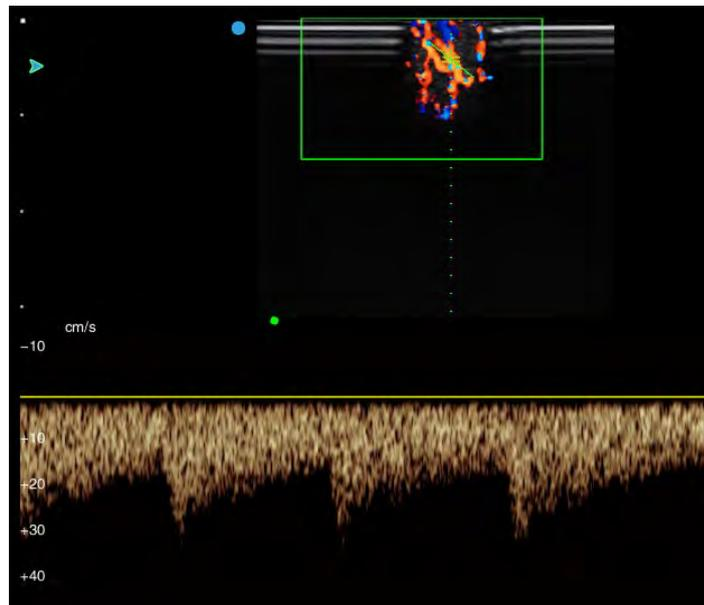

Fig.6-22 Triplex mode
**Touchscreen:** In Live state, when B, PW and CFM modes are turned on, tap **Triplex** and activate B/C/PW Triplex (as shown in Fig. 6-22), and **Active B/C/PW** will be displayed in the control parameter area. Press continually on the **T-Ball** in the control panel to switch back and forth between **Active PW**, **Active B/C** and **Active B/C/PW**.